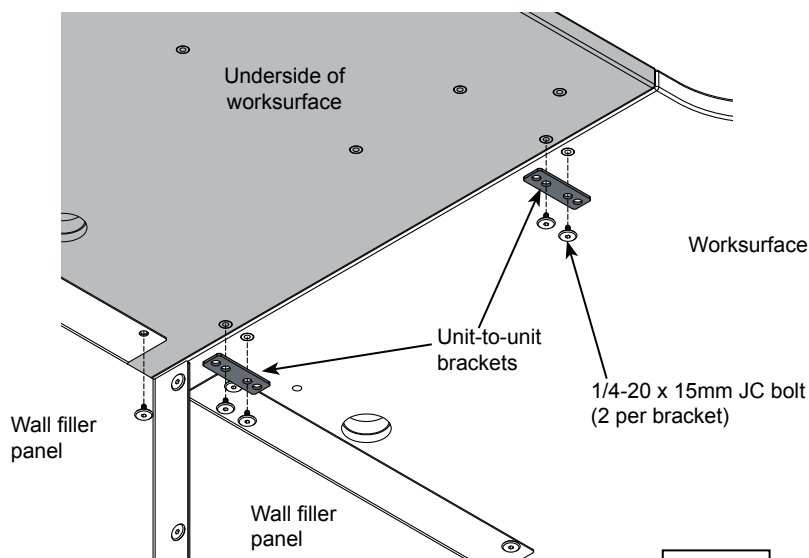

Figure 7A
1. Attach the (2) unit-to-unit brackets to one installed worksurface (use inner holes) with 1/4-20 x 15mm JC bolts. Do not tighten completely. **Figure 7A.**